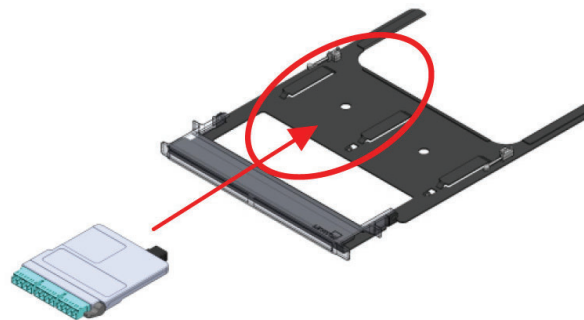

Figure 14
5.4.3 Insert the cassette or adapter plate as shown in Figure 14.